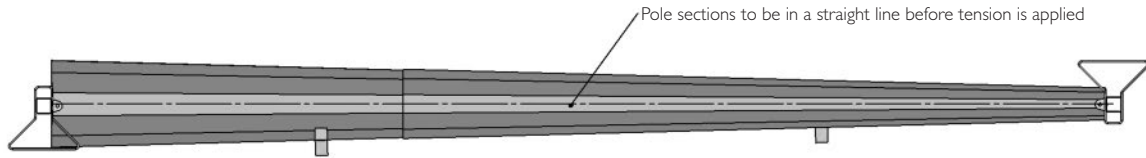
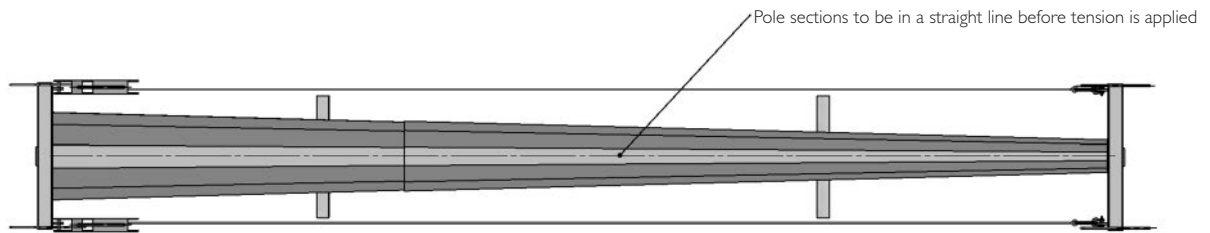

Figure 2.
Figure 3.
- 3.6** Sling the next section for assembly at its centre of gravity and engage the sections as far as easily possible, making sure that perfect alignment of the pole sections is maintained. Rotate the section being slung as necessary to maintain perfect alignment of the corner fold lines. Pole sections must be aligned both horizontally, when viewed from the side (refer figure 2), and must also at the same time be in a straight line when viewed from the end of the section (refer figure 3). The crane used to engage the next section can be used to hold the added section in perfect alignment while the joint assembly is being carried out.